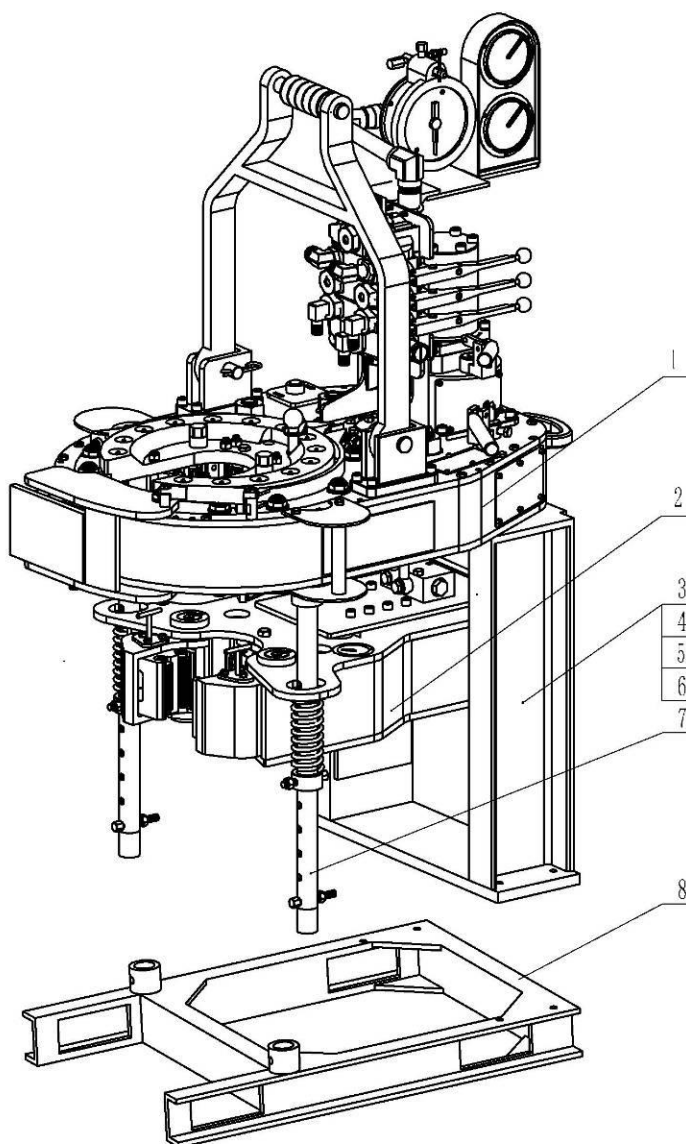

Fig. 7-1
1. General assembly (Fig 7-1, Table 1)